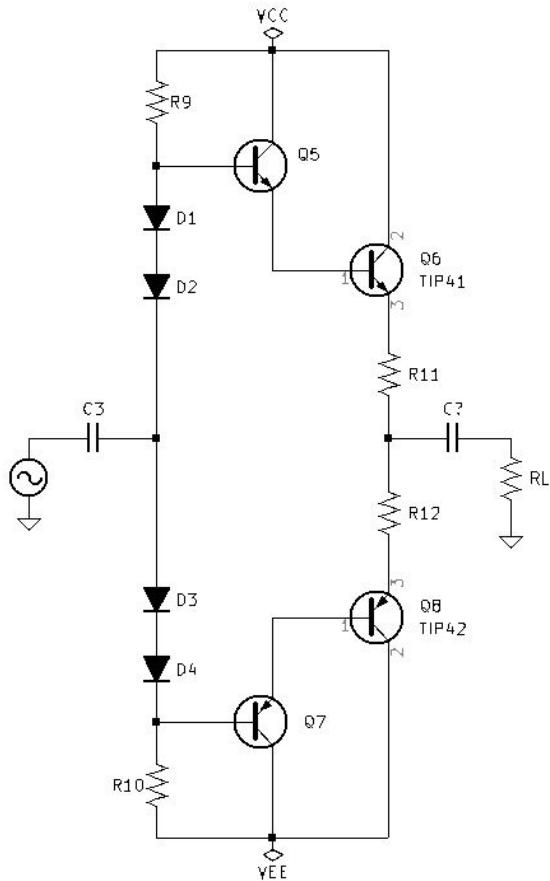

Figure 5.1: Push Pull Amplifier.
1. See Figure 5.1 *Push Pull Amplifier* on page 52.